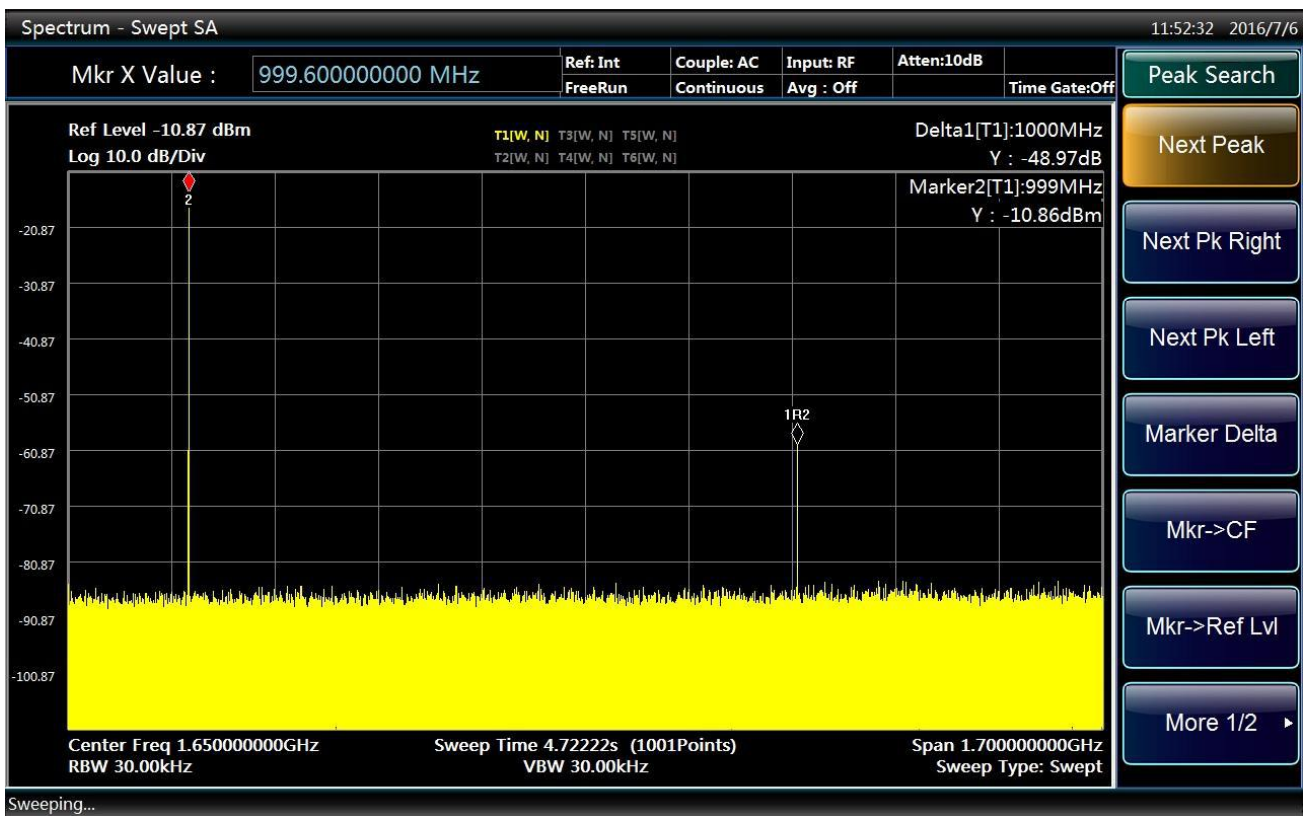

Fig. 4.19 Display interface of second harmonic measurement with delta marker
- Press **【Peak Search】** and [Next Peak]. At this time, the fixed marker is indicated on the fundamental wave and the active marker is at the peak of the second harmonic as shown in Fig. 4.19.